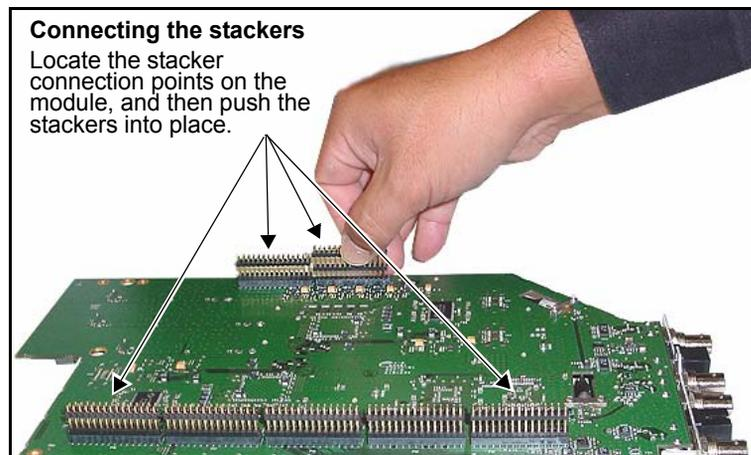

Figure C-10. Connecting Seven Stackers to Module
4. Turn the board upside down and insert the seven stackers into the corresponding connectors on the underside. See Figure C-10.